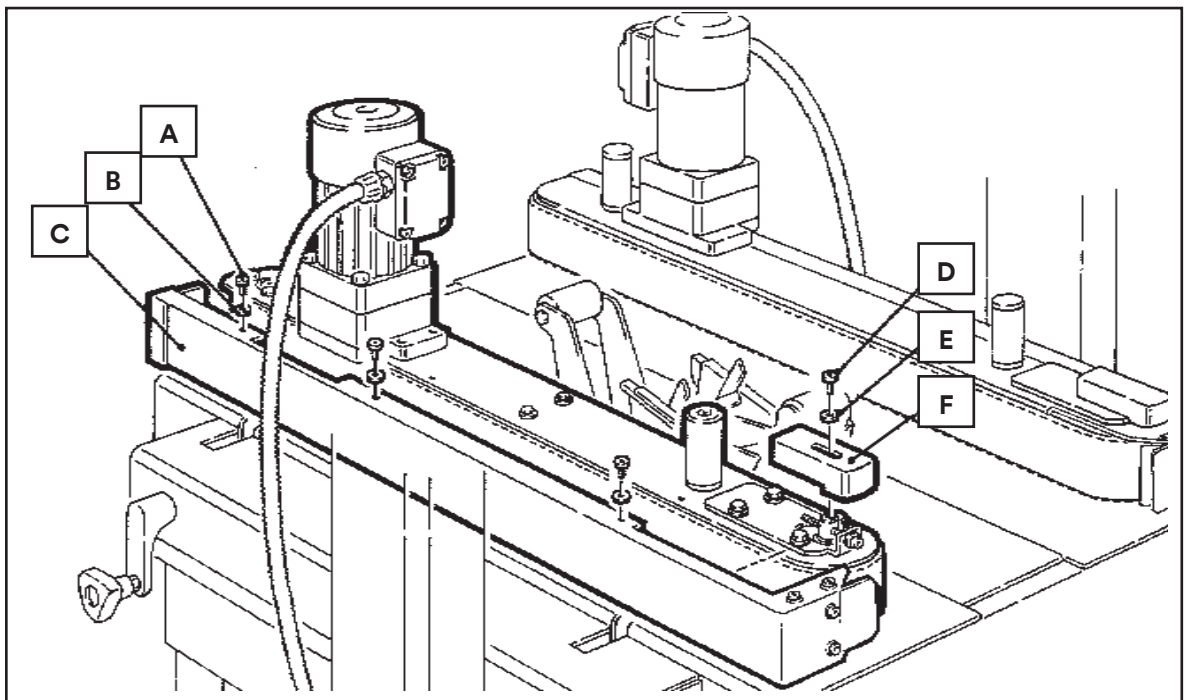

Figure 13-1 Box Drive Belt (Left Side View – Infeed End)
2. Remove and retain the three (3) screws (A), three (3) washers (B) and side cover (C). See Figure 13-1.
3. Remove and retain the screw (D), washer (E) and belt tensioner cover (F).
8. Reverse procedures in Steps 1-3 (**Figure 13-1**) to reassemble the drive belt assembly.